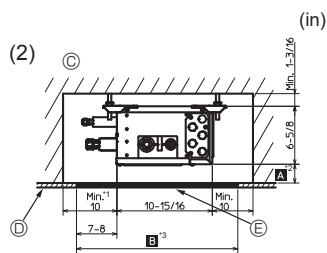
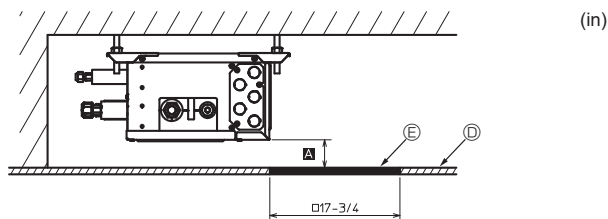

Fig. 4-8
Fig. 4-9
(2) Side View (Fig. 4-8, Fig. 4-9)
In the case of "□ 17-3/4 in (450 mm)", prepare a maintenance hole at a PCB side (as it is shown in Fig. 4-9), and "Min. 11-13/16 in (300 mm)" is needed as distance Ⓐ.